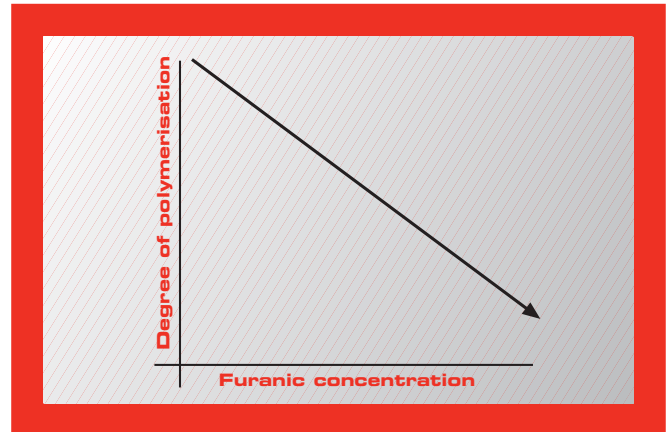

Figure 2
The solid insulation (cellulose-based products) in transformers degrades with time at rates which depend on the temperature, moisture content, oxygen and acids in the insulation system. Heat and moisture are the main enemies of the solid paper insulation with oxidation as the primary culprit. When degradation occurs, the cellulose molecular chains (polymers) get shorter. Chemical products such as furanic derivatives are produced and dissolve in the transformer oil. Of the furanic compounds, 2-furaldehyde is the most abundant. Its concentration in oil has been related to the degree of polymerisation (DP) and consequently to the physical strength of the solid insulation (see Figure 2).